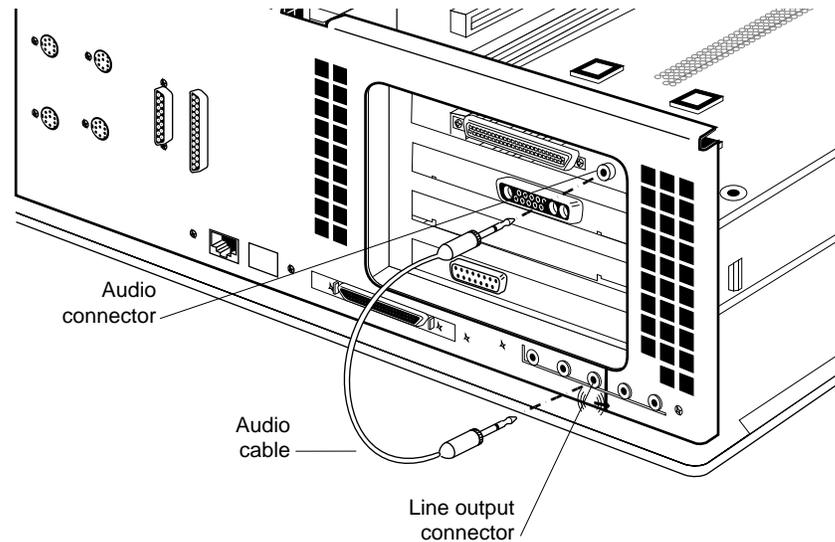

Figure 2-1 Removing the Audio Cable
3. Disconnect the small black audio cable from the audio connector on the Presenter board and from the line output connector on the rear of the chassis. (See Figure 2-1.